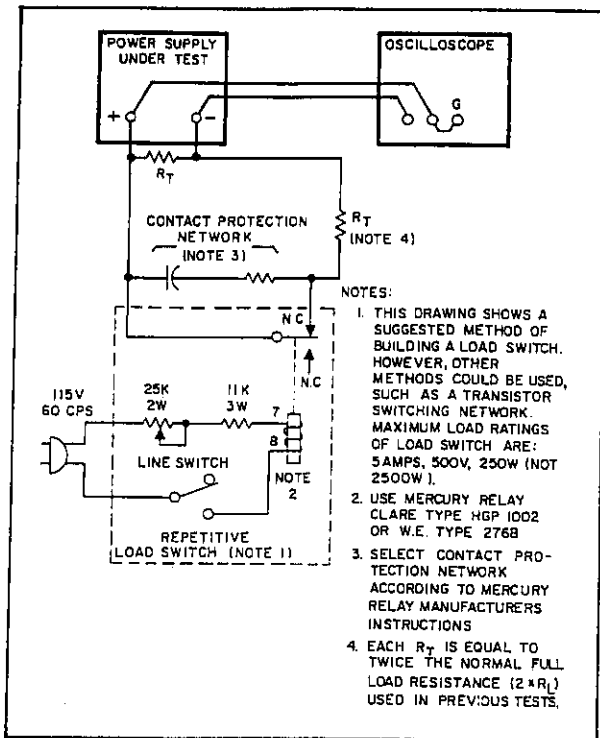

Figure 5-5. Load Transient Recovery Time, Test Setup
5-30 **Measurement Techniques.** Care must be taken in switching the load resistance on and off. A hand-operated switch in series with the load is not adequate since the resulting one-shot displays are difficult to observe on most oscilloscopes and the arc energy occurring during switching completely masks the display with a noise burst. Transistor load switching devices are expensive if reasonably rapid load current changes are to be achieved. Instead, a mercury-wetted relay should be used for loading and unloading the supply. Connect it in the load switching circuit shown in Figure 5-5. When this load switch is connected to a 60Hz ac input, the mercury-wetted relay will open and close 60 times per second. The 25K control adjusts the duty cycle of the load current switching to reduce jitter in the oscilloscope display. This relay may also be used with a 50Hz ac input.
- Connect the test setup shown in Figure 5-5. Both load resistors ( $R_T$ ) are twice the normal value of a full load resistance.